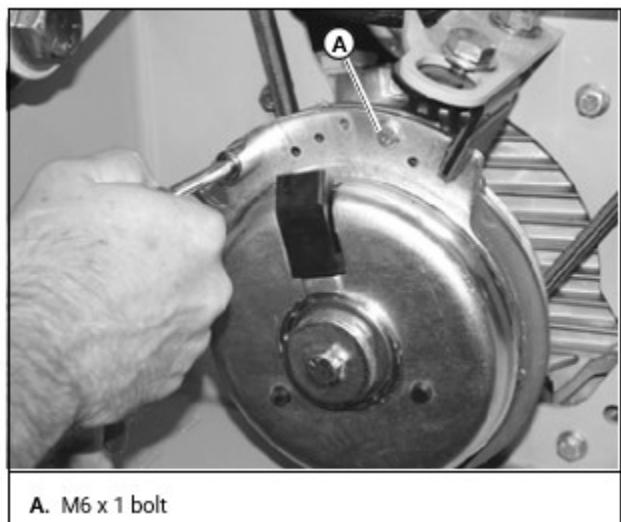

Figure 26
1. Loosen both brake mounting bolts 1/2 to 1 full turn as shown in [Figure 26].